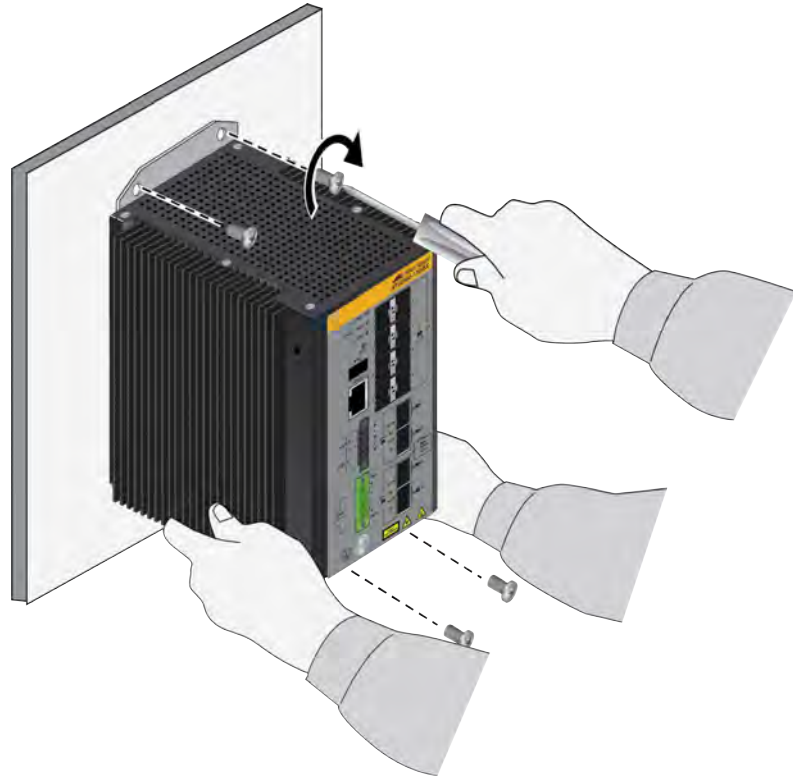

Figure 36. Installing the Switch on a Concrete Wall
10. Have another person hold the switch at the selected wall location while you secure it with four screws (not provided). Refer to the anchor datasheet from the manufacturer for the recommended torque value for the screws. Refer to Figure 36 on page 85.